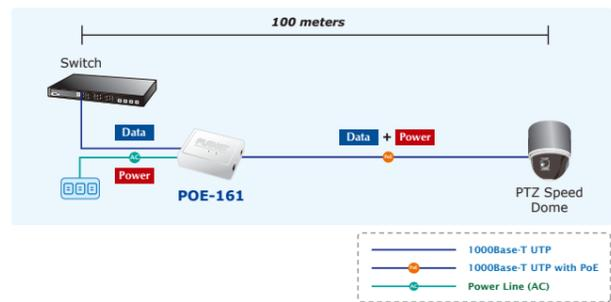

Figure 2: Connection to IEEE 802.3at device
4. Connect with IEEE 802.3at devices, due to the capability of IEEE 802.3at Power over Ethernet, the POE-161 can directly connect with any IEEE 802.3at end-nodes such as PTZ (Pan, Tilt & Zoom) network cameras, PTZ Speed Dome, color touch- screen Voice over IP (VoIP) telephones, multi- channel wireless LAN access points where support IEEE 802.3af In-line Power over Ethernet port. The screen in Figure 2 appears.